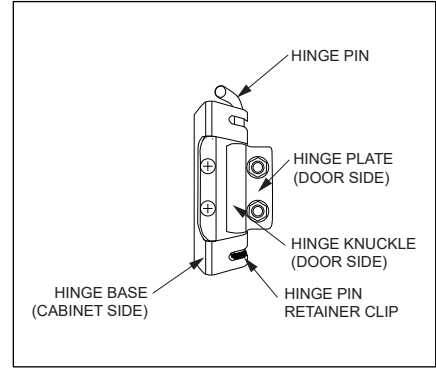
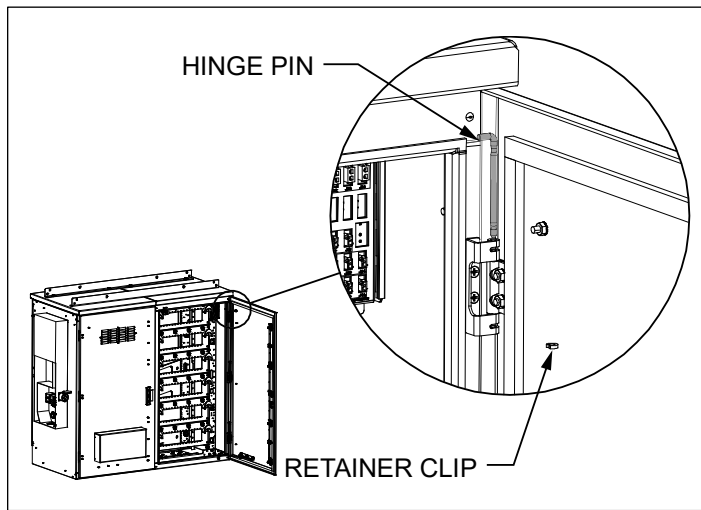

Figure 3 Hinge Assembly
Figure 4 Remove Hinge Pin
3. Locate the hinge pin (Figure 3). Remove the retainer clip and lift the hinge pin out of the hinge (Figure 4, hinge pin shaded in gray). A hammer or mallet may be necessary to move the pin upward. Repeat for each hinge.
3. While supporting the door weight, secure the door into position by pushing the hinge pins through the hinge knuckles into the lowest pin position. A hammer or mallet may be necessary to lower the hinge pin all the way through the knuckle. Secure the pin by placing the retainer clip in the bottom position (Figure 3). Secure the top hinge first, then the bottom, then the middle.